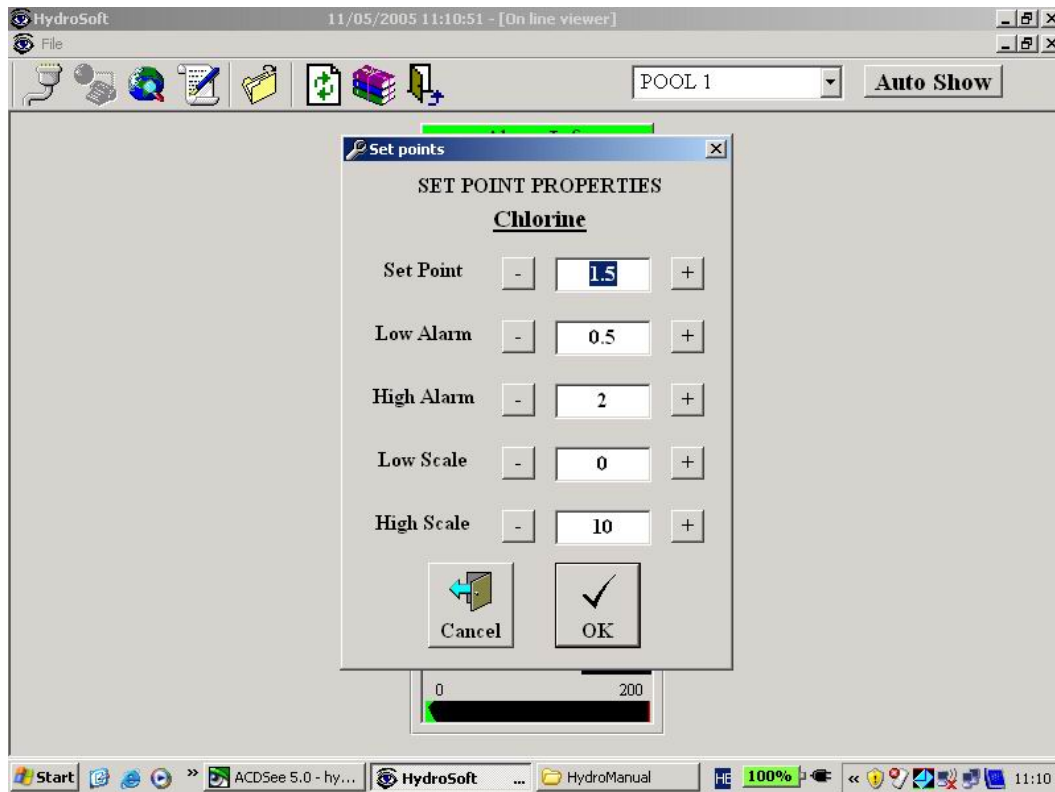

Figure 7: Changing Individual Variable Settings
5. By clicking on an individual variable, the variable properties window will appear (Figure 7)